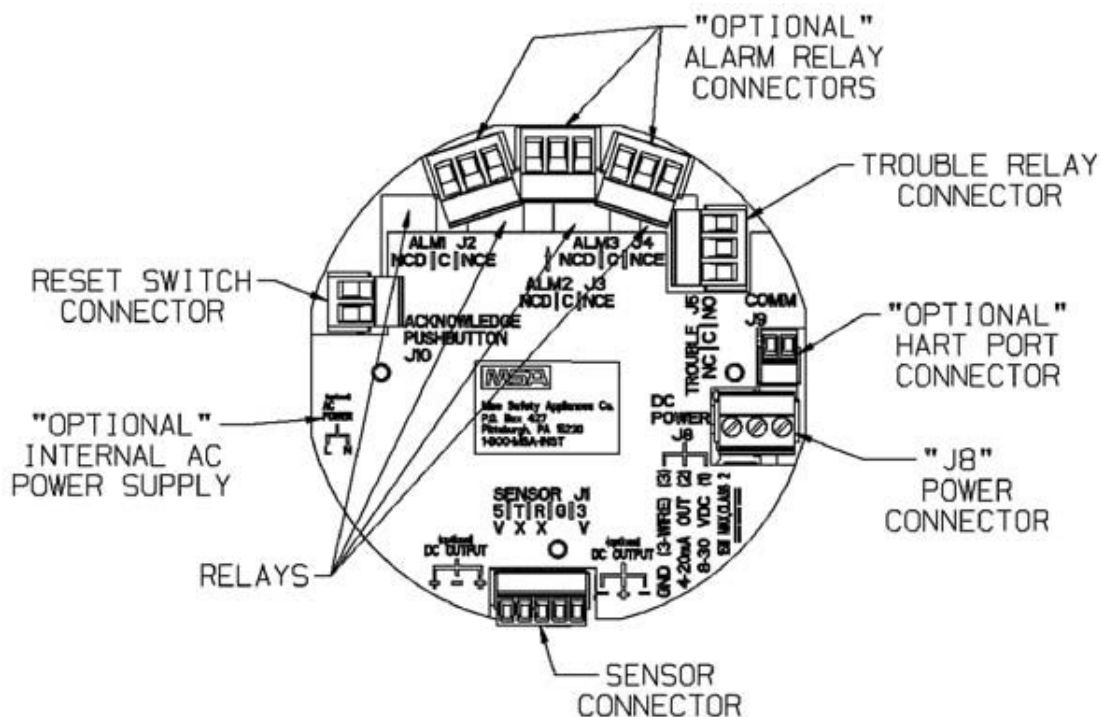

Fig. 19 Three-Wire Printed Circuit Board (with HART Protocol)
- (1) Connect 8-30 VDC power lead to J8-1 (see Fig. 19)
- (2) Connect J8-2 to the 4-20 mA input on the remote system.
- (3) Terminate the 4-20 mA line with 230-500 Ohms of resistance.
- (4) For three-wire operation, connect the signal ground to J8-3.
- (5) Connect the sensor module to main pc board connector J-1.
- (6) Wire for optional relays, if applicable (see 6 "Appendix A, Optional Features").
- (7) Assemble lid on the enclosure.